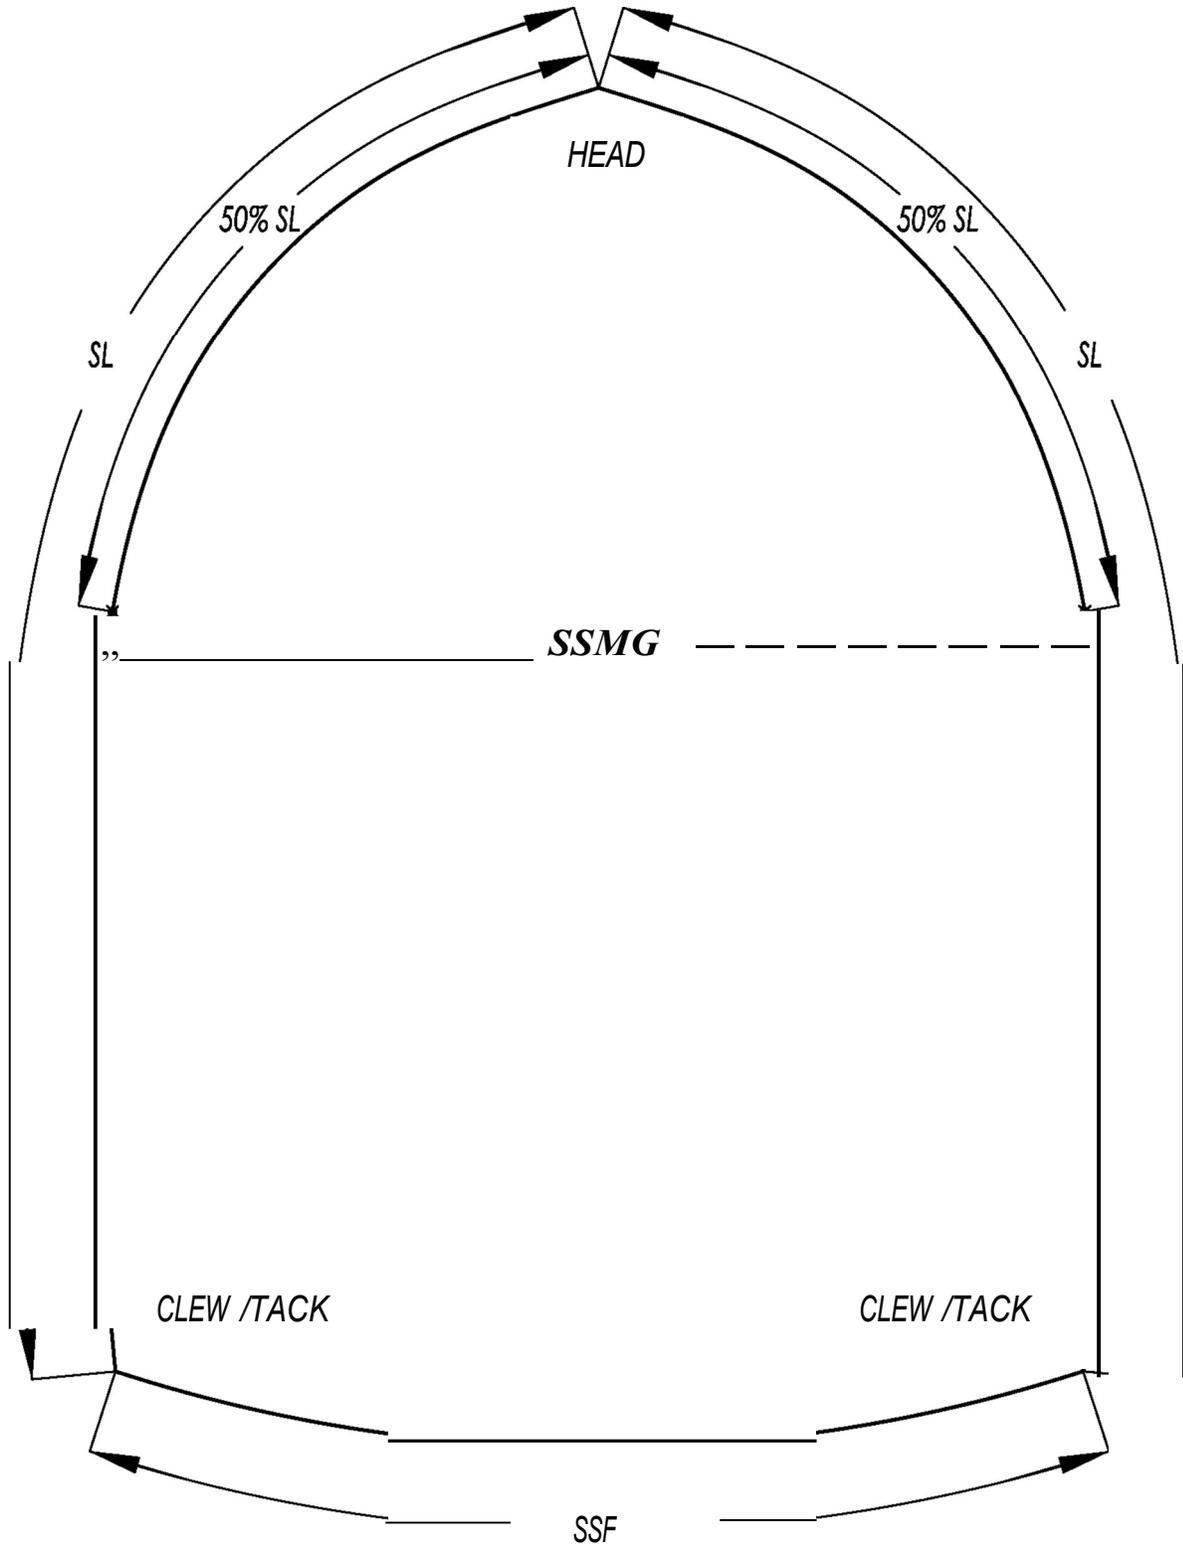

FIGURE 2 - SYMMETRIC SPINNAKER DIMENSIONS
- Relevant dimensions can be found in Figure 2